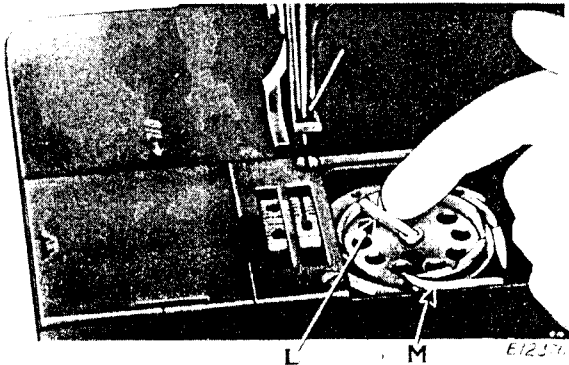
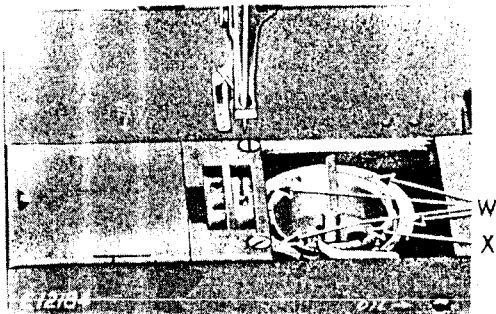
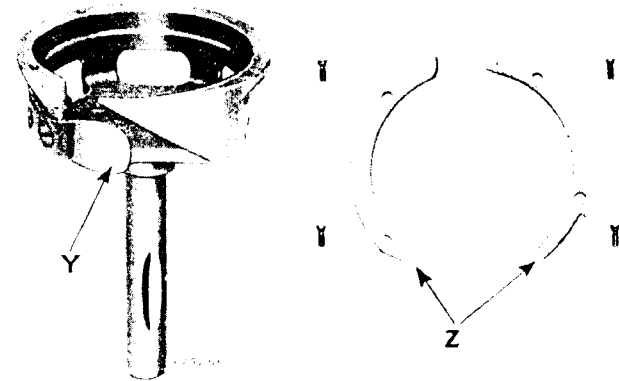

Fig. 7. Removing the Bobbin
Fig. 20. Removing Bobbin Case
Fig. 21. Sewing Hook Removed from Machine
Draw back the slide plate in the bed of the machine and turn the balance wheel until the bobbin case opener (M, Fig. 7) moves clear of the bobbin. With the forefinger or a screwdriver, raise the latch (L) to a vertical position and lift out the bobbin.
The needle guard (Y, Fig. 21), which is attached to the side of the sewing hook, should be sprung until it prevents the needle from striking the hook in case the needle is deflected towards the hook.
Remove the bobbin case opener (M, Fig. 7); remove the four hook gib screws (W, Fig. 20) from the sewing hook, lift off the hook gibs (Z, Fig. 21) and remove the bobbin case (X, Fig. 20).